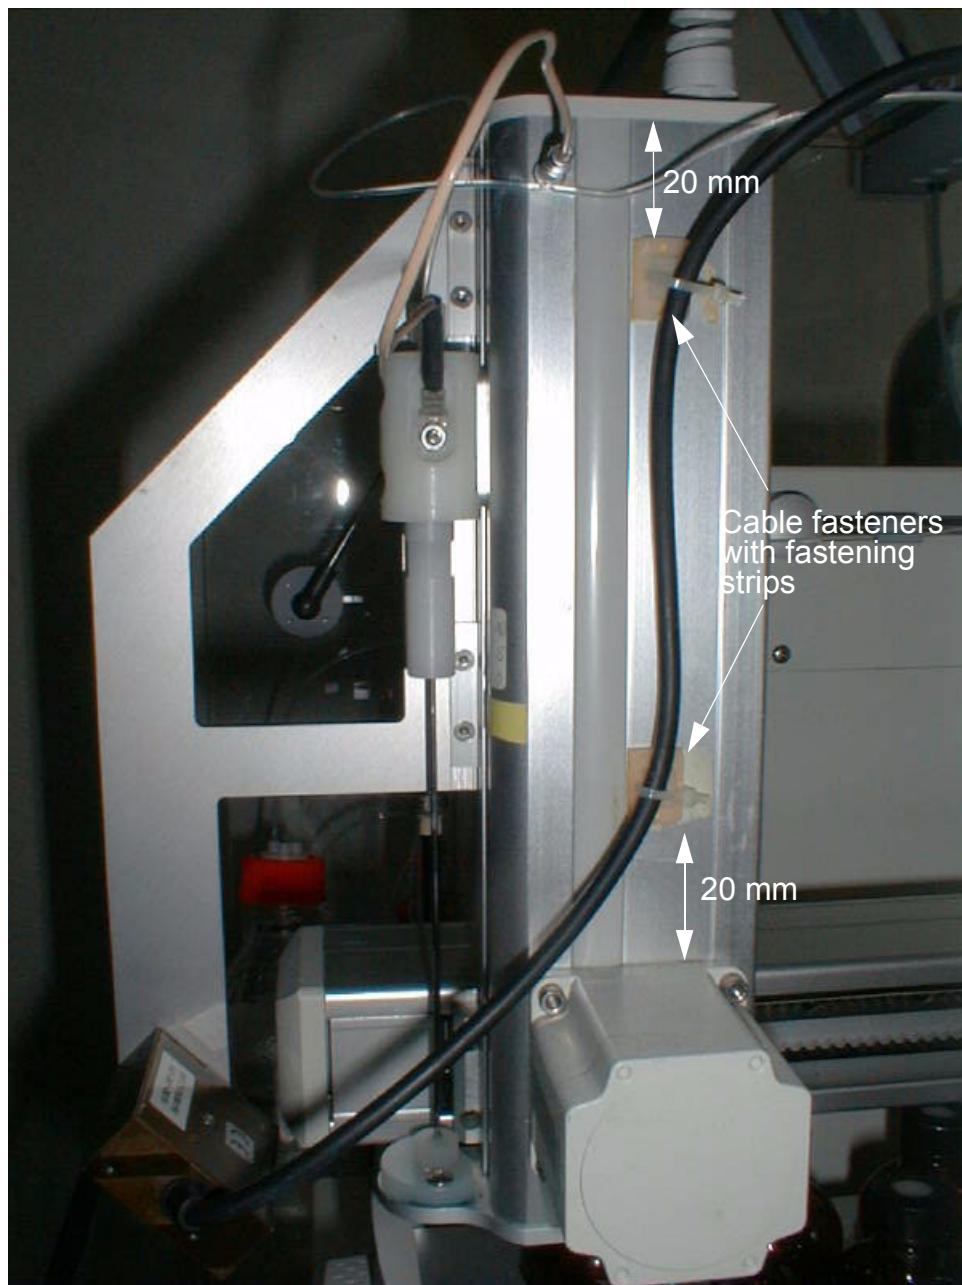

Figure 3.3. Securing the Barcode Cable
3. Affix the two adhesive fasteners to the Z-tower arm as shown in Figure 3.3. and fasten the barcode reader cable to them using the two plastic strips.